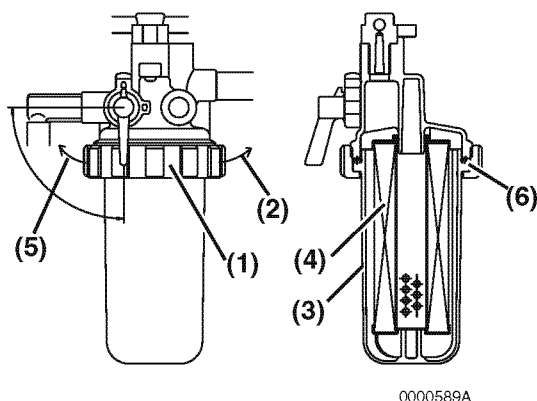

Figure 5-14
3. Turn the retaining ring (**Figure 5-14, (1)**) to the left (**Figure 5-14, (2)**).
4. Carefully remove the cup (**Figure 5-14, (3)**) and pour the fuel into an approved container and dispose of waste properly. Hold the bottom of the cup with a shop towel to prevent the fuel from dripping. Wipe up any spills immediately.
5. Remove the element (**Figure 5-14, (4)**) by pulling it down.
8. Check the condition of the cup O-ring (**Figure 5-14, (6)**). Replace if necessary.
9. Reinstall the cup to the mounting flange and turn the retaining ring (**Figure 5-14, (1)**) to the right (**Figure 5-14, (2)**). Hand-tighten only.